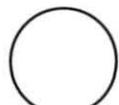

Figure 21. Instrument Tag
2. Determine the type of device indicated by the tag in figure 21.